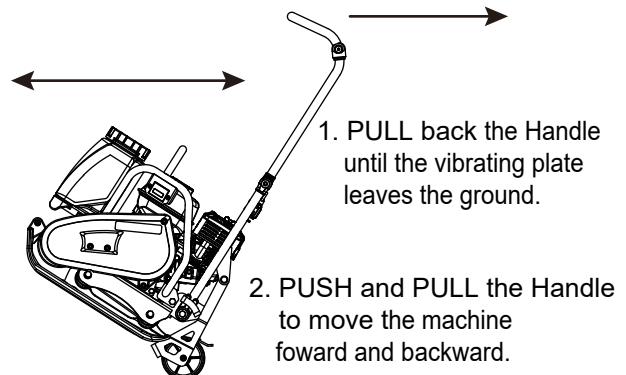

Figure 12. Wheel Kit Movement
3. Check that the wheel kit rotates smoothly by moving the machine forward and backward (Figure 12).